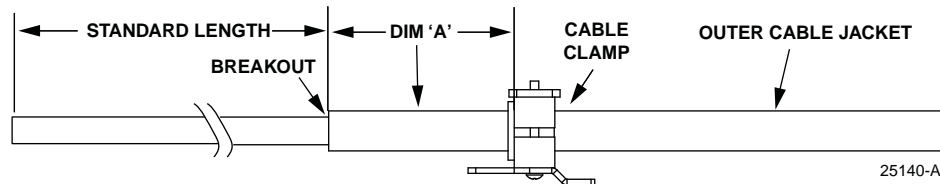

Figure 40. Cabled Module Assembly Cable Clamp Position and Breakout
7. Prepare each cable as follows, referring to Figure 40:
- b. If the cable being installed is an NG4access cable terminated with one or more cabled module(s), obtain the appropriate DIM 'A' length from Table 5 based on where the cable clamp will be installed on the bracket, measure out this length from the factory breakout on the cable, and mark the cable at this location as shown in Figure 40. This is where the cable clamp should be placed on the cable.